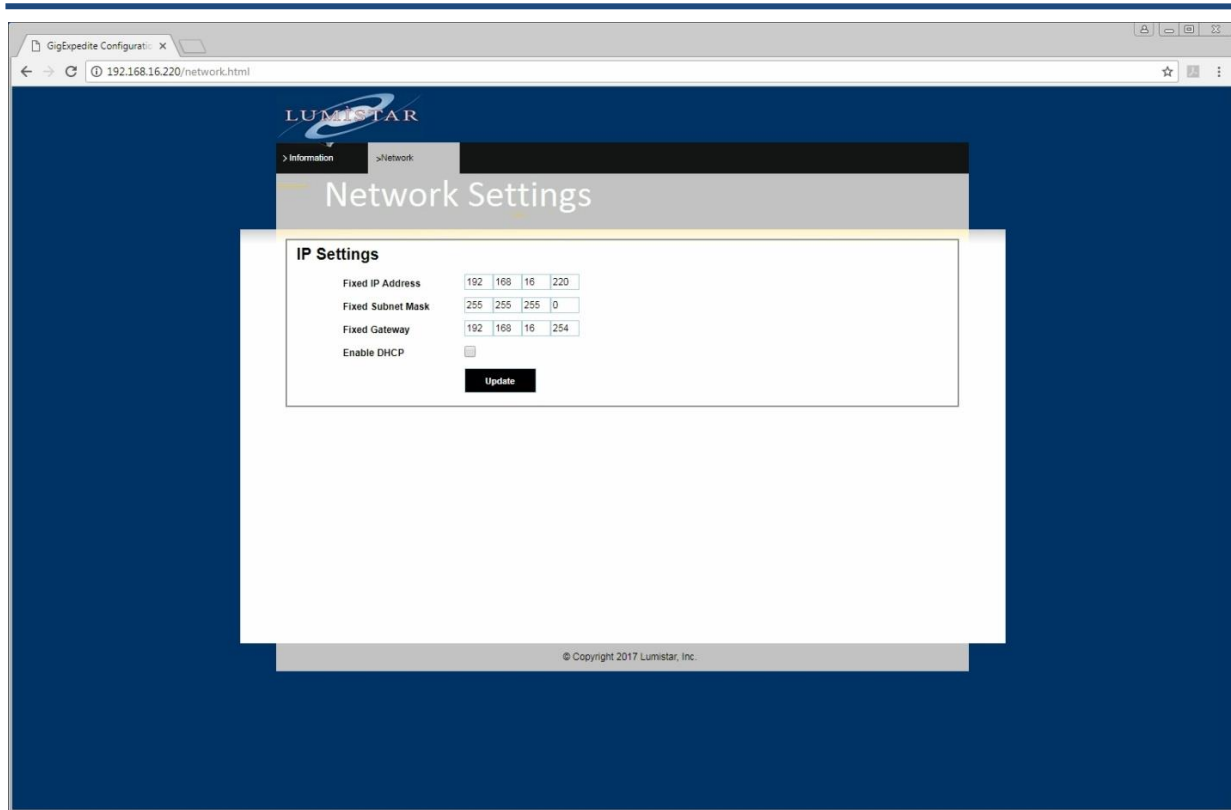

Figure 2-7 LS-28-DRSM Network Setup: Web Browser Network Setup Tab
Step 5: To change any of a number of other network parameters, select the NETWORK tab on the web browser page. This will bring up web page similar to the one shown in Figure 2-7.